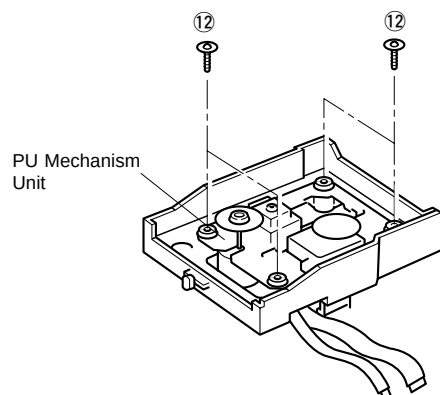

Fig. 7
- b. Remove 4 screws (⑫) and then remove the PU Mechanism Unit as shown in Fig. 7.